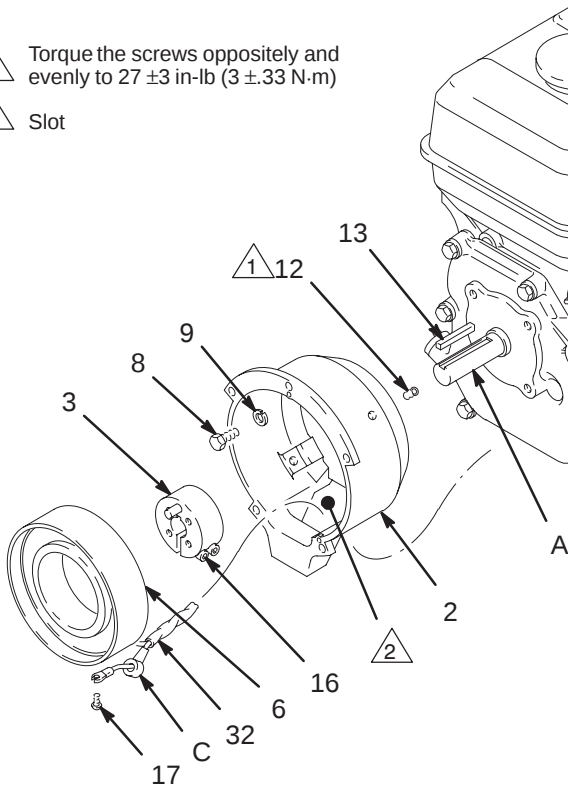

Fig. 16
1. Install the **clutch housing (2)**, capscrews (8) and lockwashers (9) on the engine. See Fig. 16. Torque the screws (8) to 200 ± 10 in-lb (23 ± 1.1 N·m)
2. Install the engine shaft **key (13)**. See Fig. 16.
4. Connect the wires of the wire harness (32) to the screws (17) in both places on the field (wires can be attached to either connection). Pull the plastic caps (C) up and snap them over the screws. Install the **field (6)** in the clutch housing (2). Work the wire harness through the slot in the clutch housing, With the setscrew holes in the field and the clutch housing (2) aligned, tighten the setscrews (12) oppositely and evenly, to 27 ± 3 in-lb (3 ± 0.33 N·m). See Fig. 16.